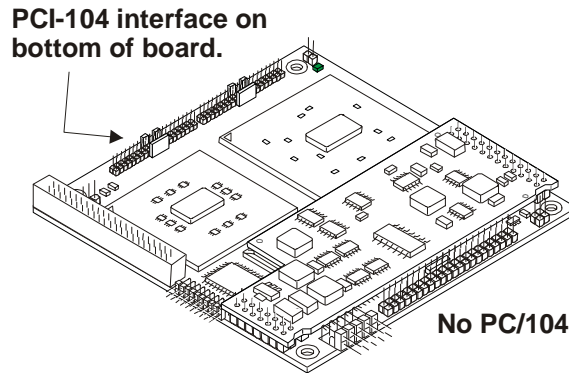

Figure 2-1. CoreModule Target System Example
<ul style="list-style-type: none"> • If the target system has already been setup on the workbench for installation of the MiniModule ISA board, skip this section and go to Step 9. • Refer also to the target system QuickStart Guide for the installation instructions referenced in the following steps. See Figures 2-1 and 2-2 for examples of CoreModule and LittleBoard Target Systems.
13) Position the MiniModule ISA onto the target system.	<ul style="list-style-type: none"> • The MiniModule ISA must be positioned over (or under) the PCI-104 connector on the target system. See Figures 2-1 to 2-4. <p>Typically the MiniModule ISA board is installed on the top side of the target system, but in some cases, it may be installed underneath or below the target system.</p>